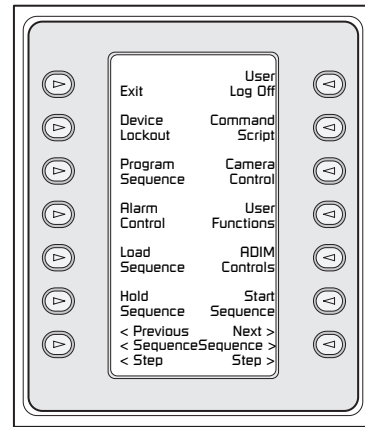

Figure 4-2 Allegiant Main Control Menu
- Following successful user log-on, the softkey display shows the *Allegiant Main Control* menu as in **Figure 4-2**.